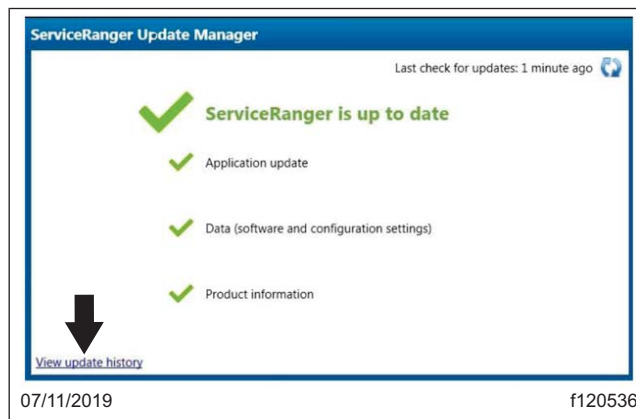

Fig. 2, Selecting View Update History
- 2.2 Select "View update history." See Fig. 2.